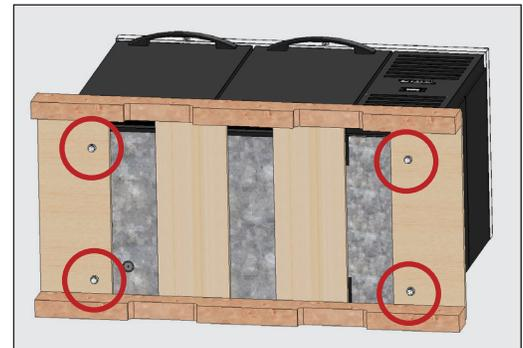

Fig. 2. Shipping bolt locations.
2. With an adjustable wrench, remove all shipping bolts securing the wood skid to the bottom of the cabinet. See fig. 2.